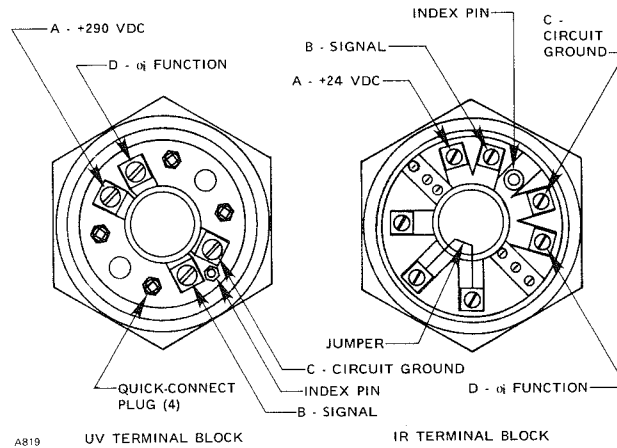

Figure 3—Terminal Block Wiring
2. To wire the terminal block to the controller, pass a 4-wire cable through the hole in the end of the terminal cap. Connect each wire to the corresponding lettered screw of the terminal block (refer to Figure 3 for terminal block illustration). Refer to the UV/IR System instruction manual for further wiring details and cable standards.